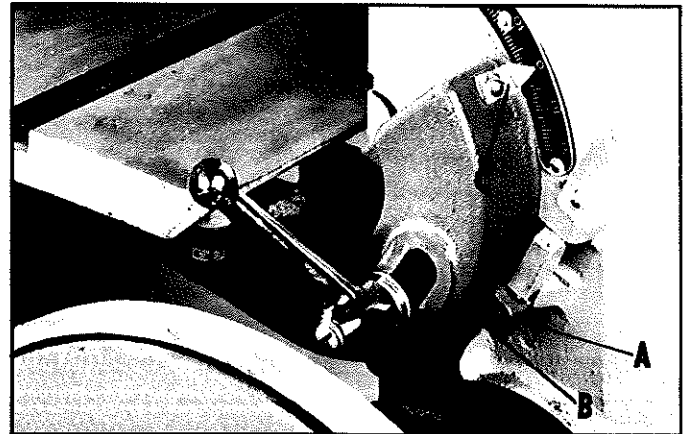

Fig. 15
4. Loosen lock screw (A) Fig. 15, and turn the adjusting screw (B) until the table is 90° to the platen. Then tighten lock screw (A) and adjust the pointer (C) to the 0° mark on the scale.